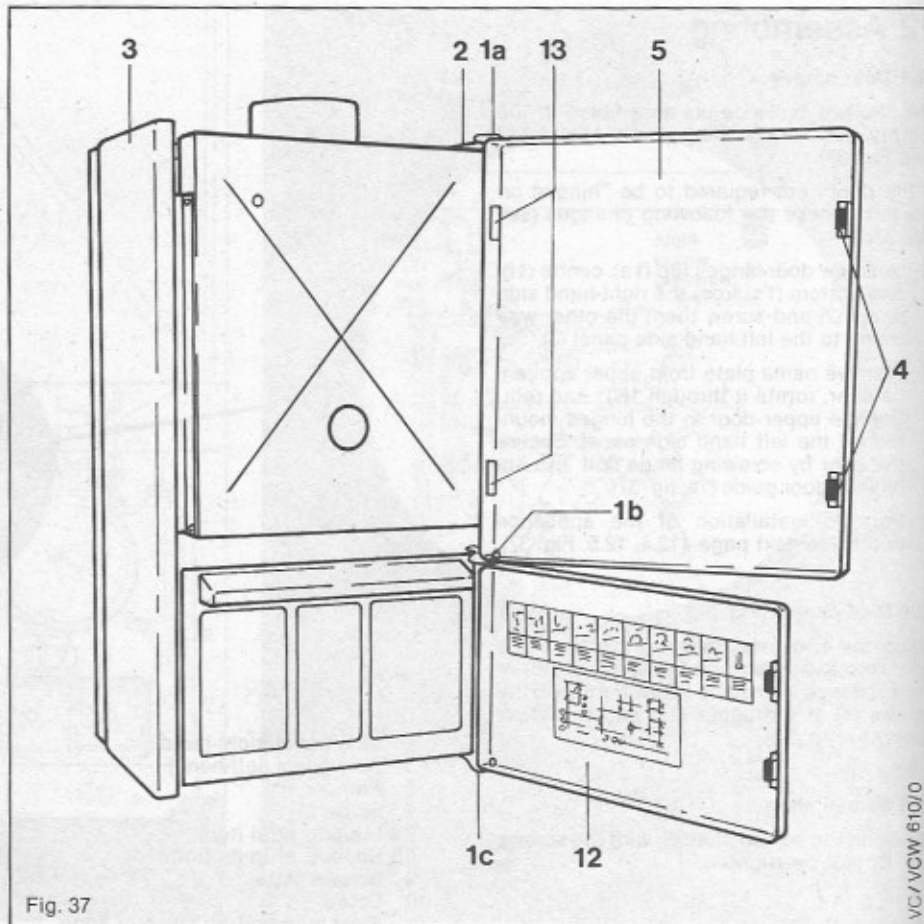

Fig. 37
The Vaillant boiler is pre-assembled in the factory for "doors hinged on the right" (see Fig. 37).
If the doors are required to be "hinged on the left", make the following changes (see Fig. 37).
- Unscrew door hinges top (1 a), centre (1 b) and bottom (1 c) from the right-hand side panel (2) and screw them the other way round to the left-hand side panel (3).
- Remove name plate from upper appliance door, rotate it through 180° and refit. Engage upper door in the hinges mounted on the left hand side panel. Secure the door by screwing hinge bolt into appliance door guide (1 a, fig. 37).
- For the installation of the appliance doors see next page. (12.4, 12.5, Fig. 37).
Position and fix self adhesive user instructions to the inner side of the door as shown on Fig. 37.
13.3 Removing outer case (Fig. 37)